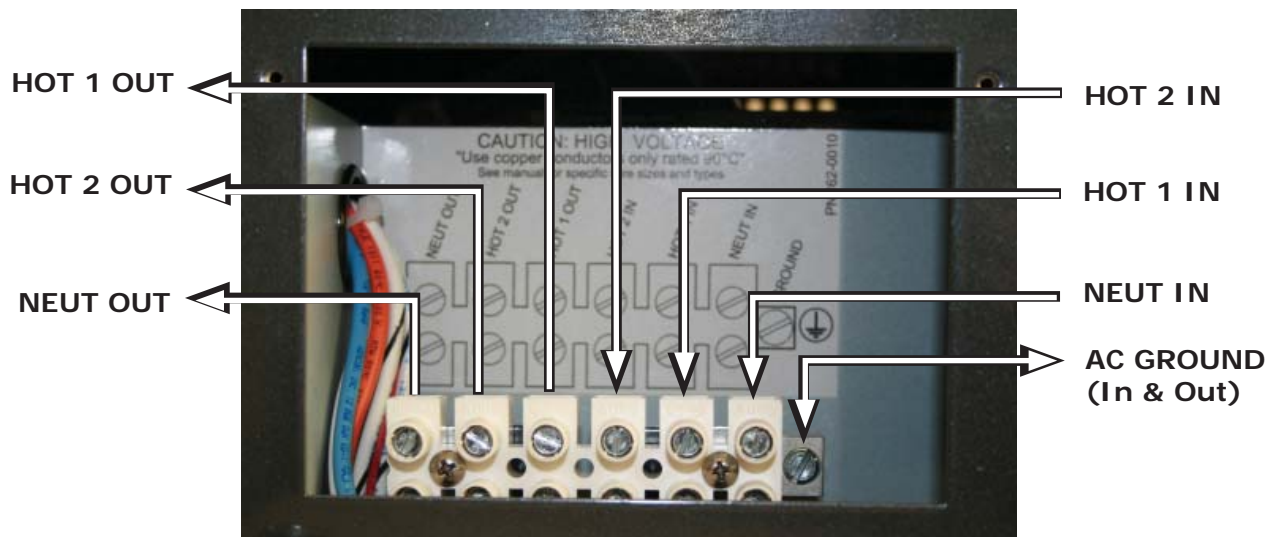

Figure 2-8, AC Terminal Block
The ME2012, ME2512, and ME3112 models have a six-pole AC terminal block and one AC ground terminal to connect the inverter's AC input and output wiring. This terminal block (see Figure 2-8) allows a service/distribution panel (main panel) to be wired to the inverter's input, and also allows a dedicated panel (sub-panel) between the inverter's output wiring and the AC loads. To access and view the AC terminal block and ground terminal, remove the two Phillips screws holding the AC wiring access cover plate (see Item 15, Figure 1-3).
1. Remove the two Phillips screws on the AC Access Cover (see Figure 1-3, Item 15) to access the internal AC Terminal Block (see Figure 2-8).
AC Side – Where the AC output from the inverter is connected to an AC load center, there should be an equipment grounding conductor connected between the inverter case and the grounding point in the AC load center. The AC equipment grounding conductor is sized per Table 2-5, and is connected to the inverter's AC equipment grounding terminal as shown in Figure 2-8 (or a grounding wire for the ME2000 models).